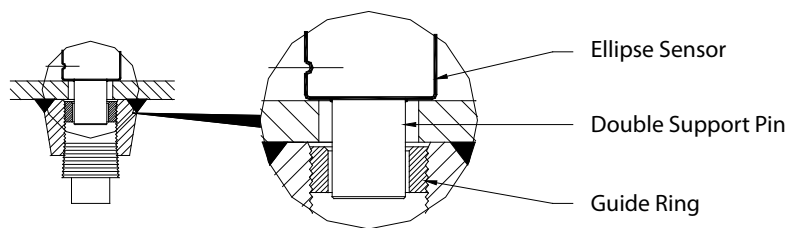

Figure 5: Double Support Pin
- Install the AHS Ellipse sensor through the two holes. Make sure that the double support pin passes through the guide ring. See Figure 5.